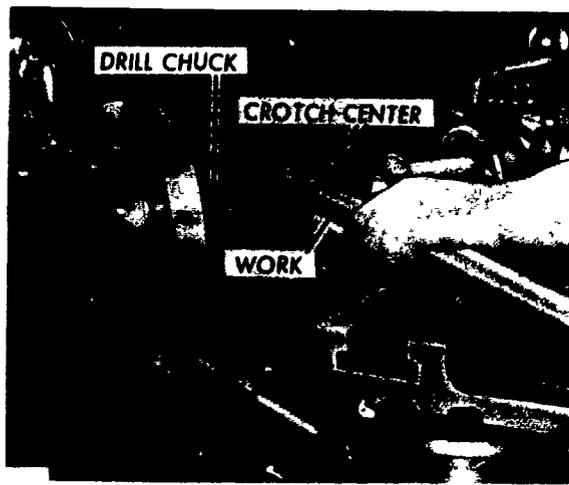

Figure 57. Supporting work with a crotch center.
d. *Crotch centers* have a  $90^\circ$  groove machined in their face. They are used to support round stock when holes are drilled  $90^\circ$  to the axis of the stock, as shown in figure 57.